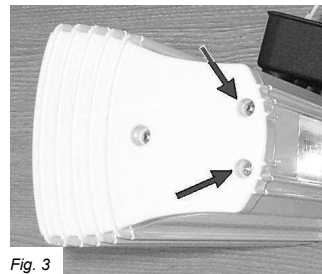
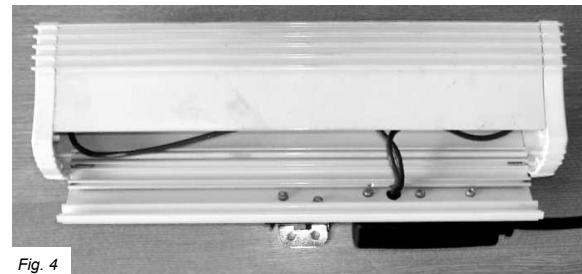

Fig. 3
Fig. 4
5. Unscrew the two self-tapping screws (see Fig. 3) from each side of the casing and let the back pivot down (Fig. 4).